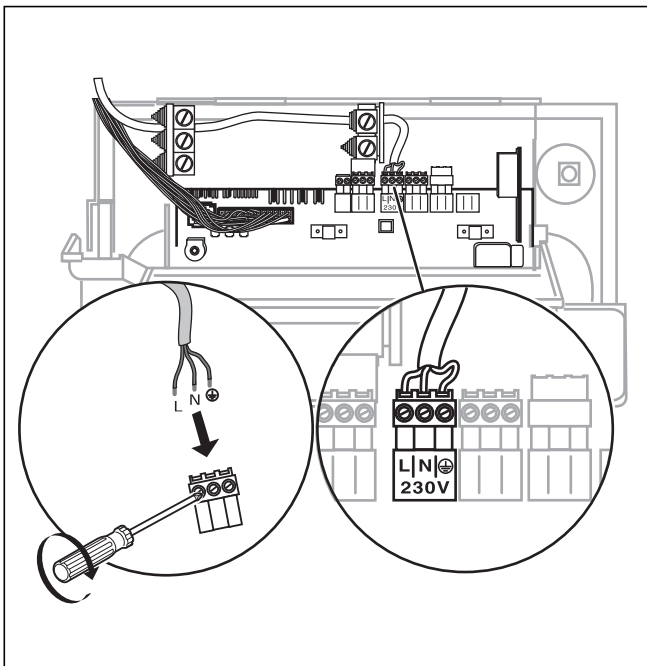

Fig. 5.1 Connecting the mains supply
The electrical connection must be done by a suitably qualified heating engineer who is responsible for complying with the existing standards and guidelines. We specifically draw your attention to VDE Regulation 0100 and the regulations of the relevant EVU. Vaillant gas boilers are fitted with ProE System connection plugs for ease of wiring and are wired ready for connection. The mains infeed and all other connection cables (e.g. from the heating pump) can be connected to the ProE System plugs provided for the purpose (see Fig. 5.1 and 5.2). Mains and small voltage cable (e.g. sensor feed) must be physically separated and laid.
- Connect the mains feed securely to the ProE plug (see Fig. 5.1).